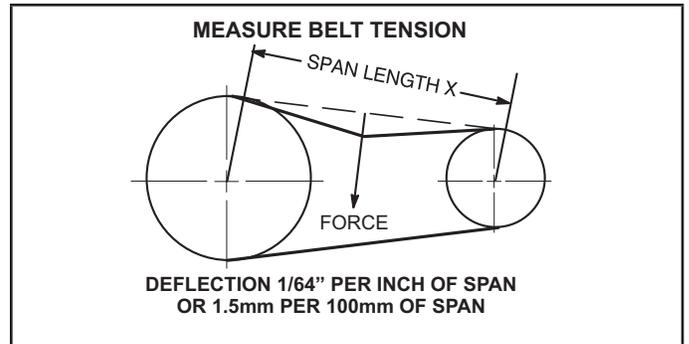

FIGURE 10
- 1 - Measure span length X. See FIGURE 10.
- 2 - Apply perpendicular force to center of span (X) with enough pressure to deflect belt 1/64" for every inch of span length or 1.5mm per 100mm of span length.